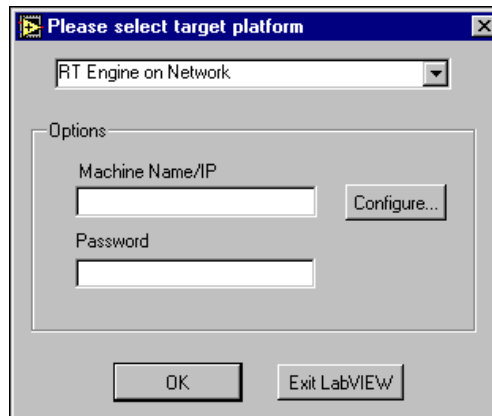

Figure 2-1. Select Target Platform Dialog Box
2. Select **Operate»Switch Execution Target** to open the **Select Target Platform** dialog box, shown in Figure 2-1.